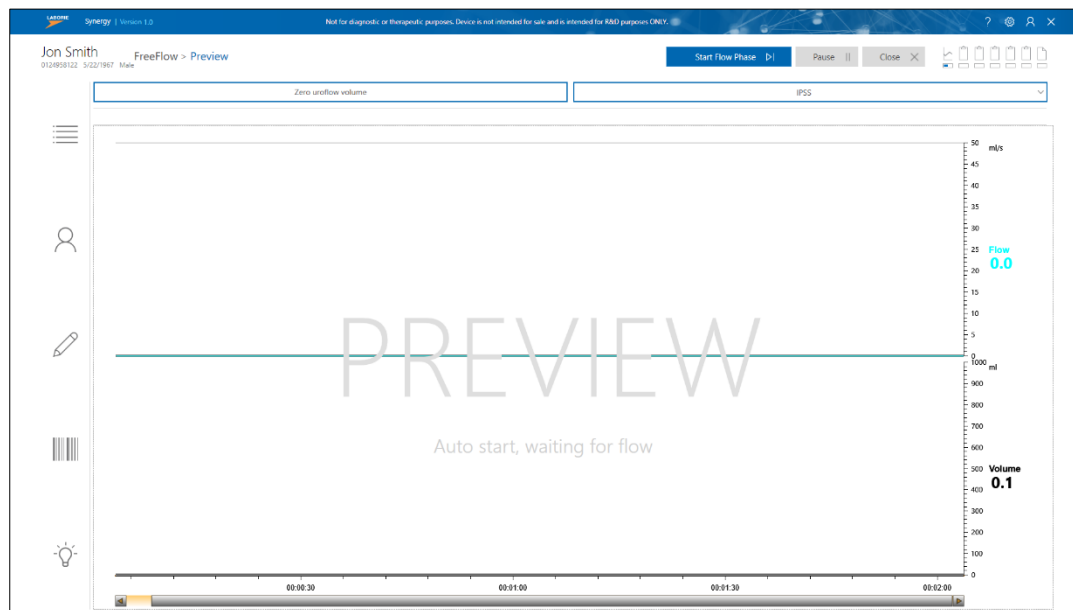

Figure 19: FreeFlow Preview Phase
1. The **Preview** phase begins as represented in Figure 19. For information about the icons in the Preview phase, refer to the Procedure – Preview Phase on page 62.